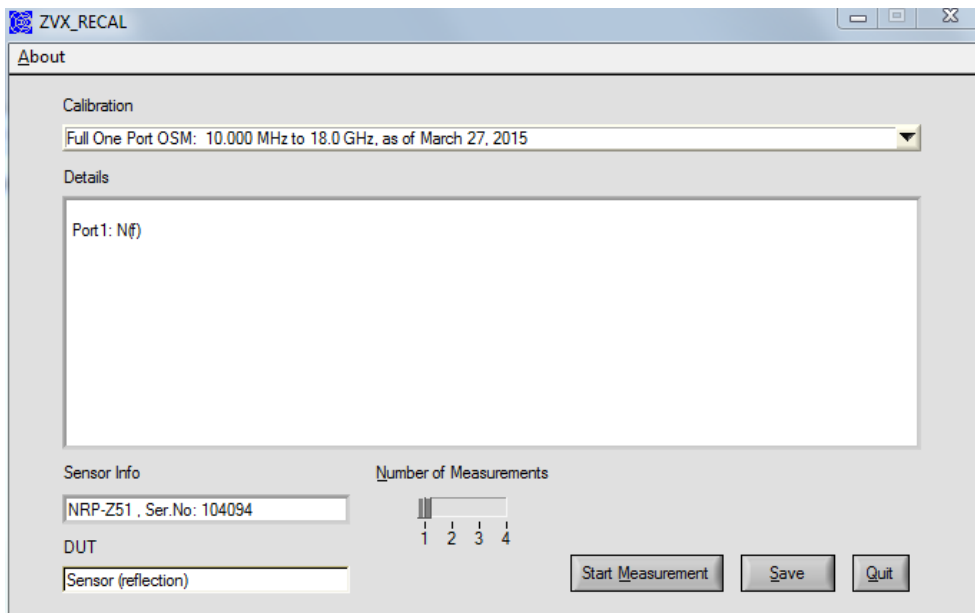

Fig. 6-6 User interface for calibrated network analyzer
- Confirm the **Calibration complete** message with **OK**. The **R&S®ZVX_RECAL** user interface will reappear in the foreground (Fig. 6-6)